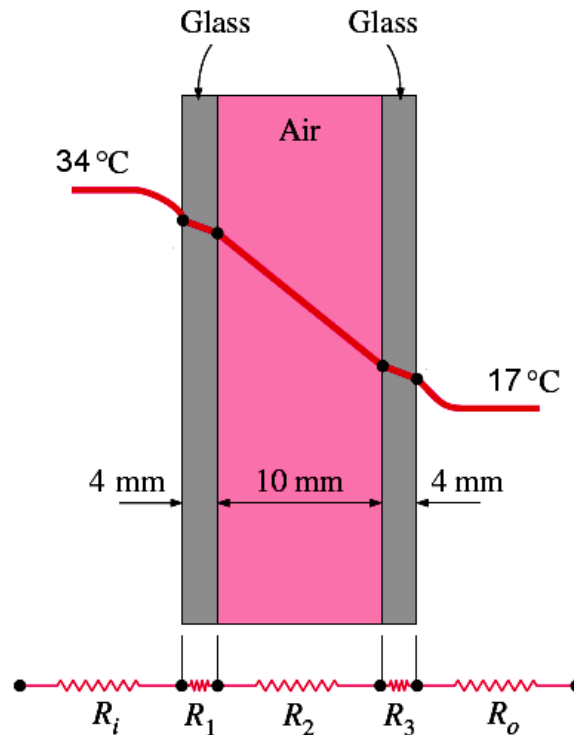

Figure Q3a: The Windows Glass
A 1.4 m high and 2.2 m wide double pane windows consists of two layers of glass each and the data of construction for Fig. Q3a as following below:-
- (g) What is the conclusion that can be made between figure Q3a and Q3b? (2 marks)